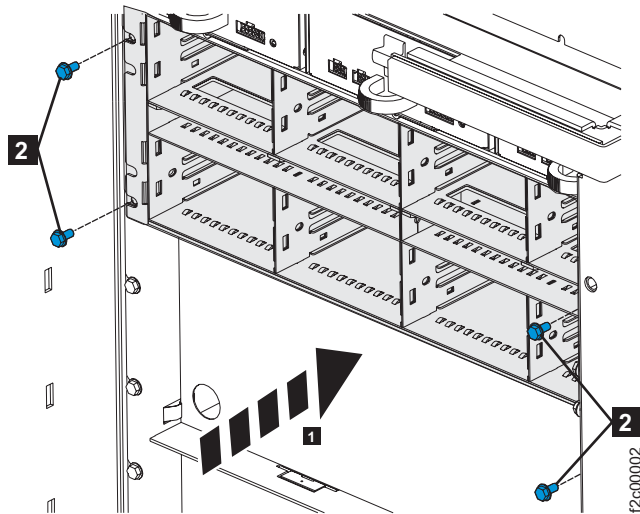

Figure 96. Install the storage enclosure
- b. Install the storage enclosure in the rack and fasten it with the four screws **2** provided. See Figure 96 on page 118.